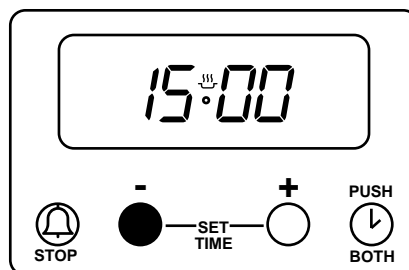

Fig. 13.7
To stop the sound and flashing, press button (1). The display will stop flashing and show the time of day, e.g. 15:00. The cooking symbol (🔥) will go out. See Fig. 13.7. If using the oven it will come on again once button (1) has been depressed. When cooking is complete remove food and turn OFF oven temperature control.